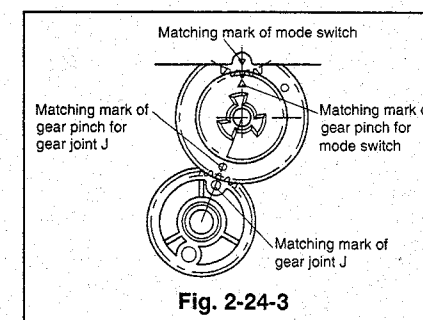

Fig. 2-24-3
- ③ Lift the mode switch, only high enough to install the gear pinch and place the gear pinch under the mode switch. Fix the mode switch to the shaft so that the matching marks of the gear pinch align with those of the gear joint J and the mode switch as shown in Fig. 2-24-3.